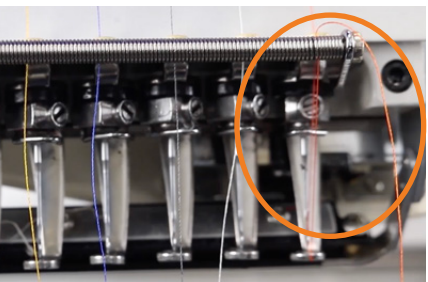

Figure 116
2. Rest the thread on the holding spring, leaving about 1 inch of thread hanging. **See Figure 116.**